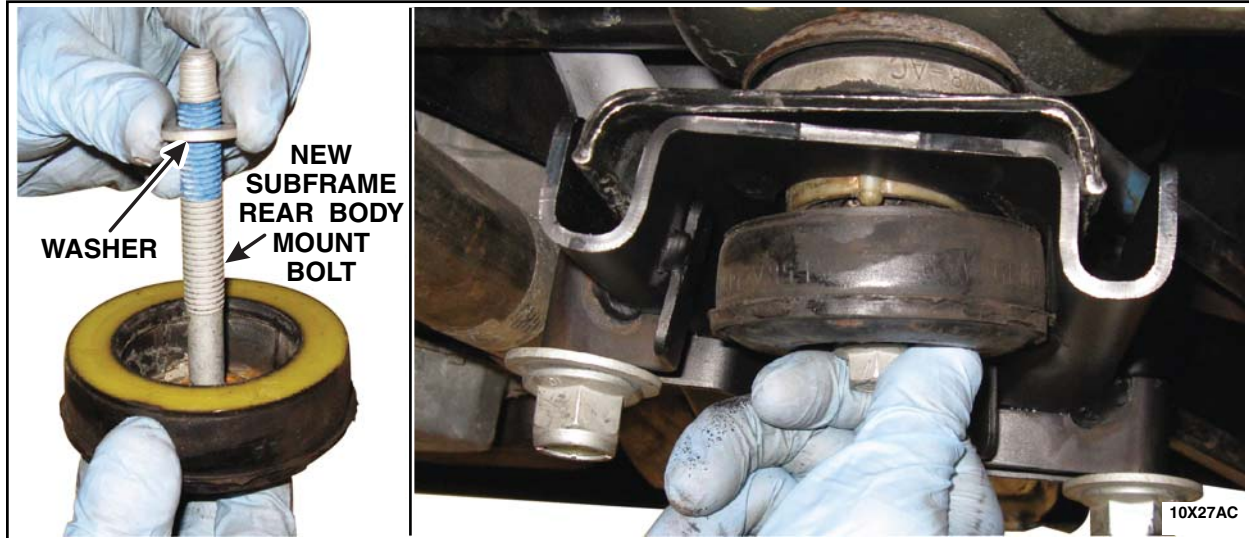

FIGURE 3
4. Install the subframe rear body mount, supplied washer and *new* rear body mount bolt. Tighten to 133 Nm (98 lb-ft). See Figure 3.